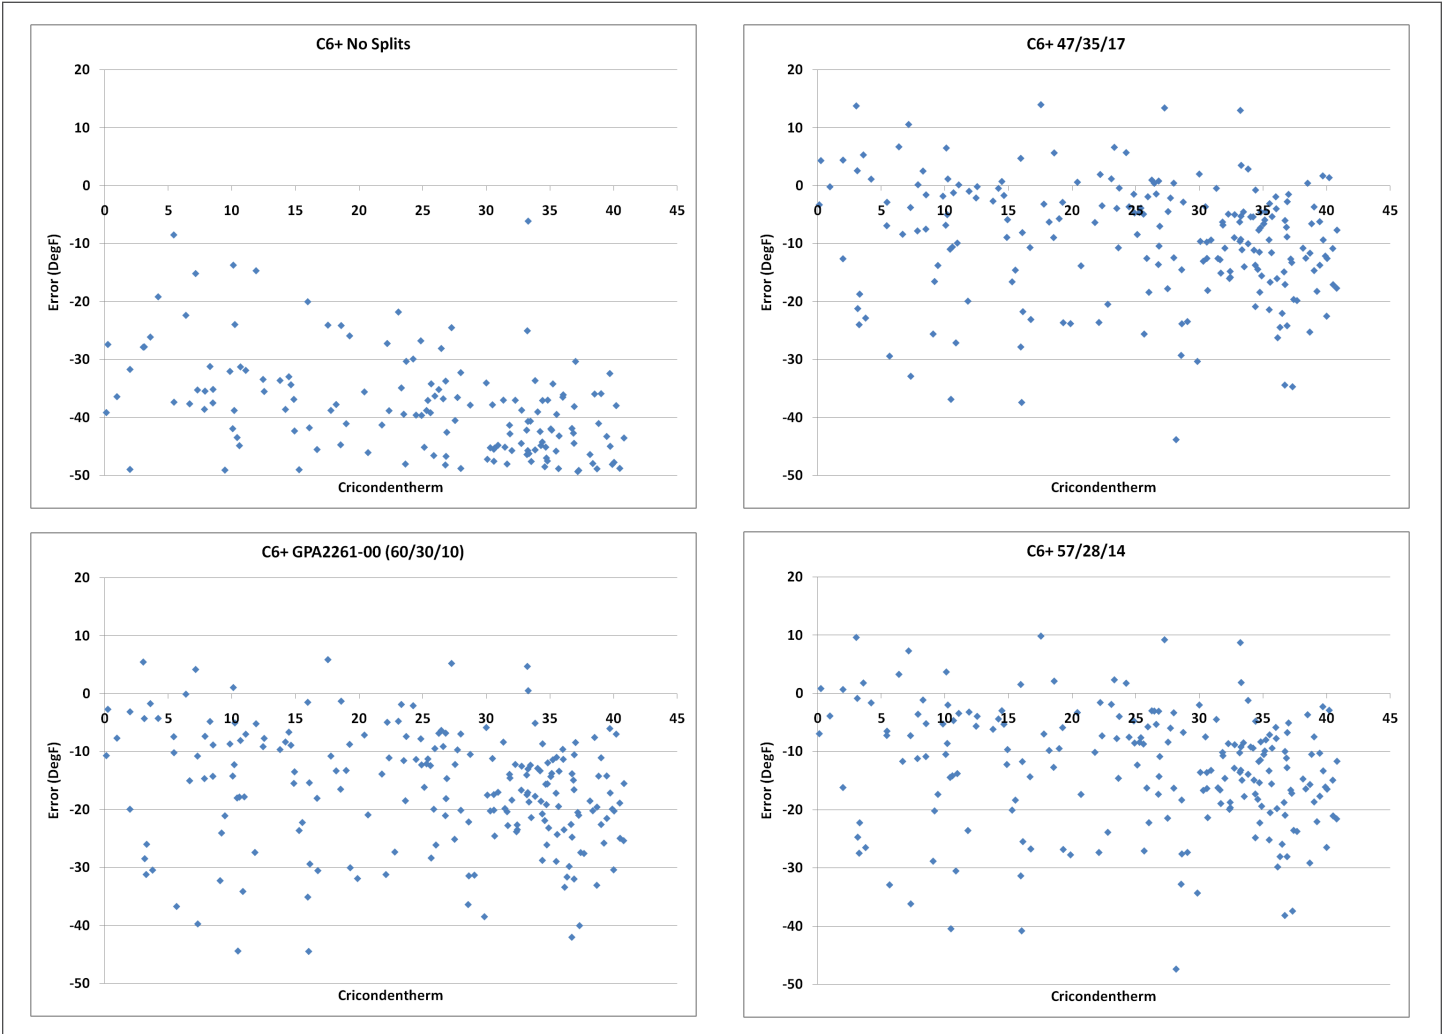

Figure 1. Calculation errors for various gas compositions when using common fixed ratios of C6+ to calculate the cricodentherm.
A C6+ gas chromatograph (typically used for the natural gas custody transfer) calculates theoretical values for the hexanes, heptanes, and octanes used in the energy and physical properties calculations from fixed ratios of the measured C6+ concentration. However, it is these heavier components that will form the hydrocarbon liquid in the stream, so assuming the values results in large errors (Figure 1) when compared to a calculation performed with a full analysis up to C12. To overcome this limitation, Emerson developed the five-minute C9+ extended analysis application to quantify the heavier components found in natural gas and provide more accurate calculations with the Peng-Robinson (PR) or Soave-Redlich-Kwong (SRK) equations of state. This application uses two robust thermal-conductivity detectors (TCD) more suited to the typical custody transfer environment than the flame-ionization detector required for the C12 analysis, and provides results within ± 5 °F of the values calculated using a full C12 analysis. The calculation can be characterized further to match isomer ratios determined by detailed spot laboratory analysis.